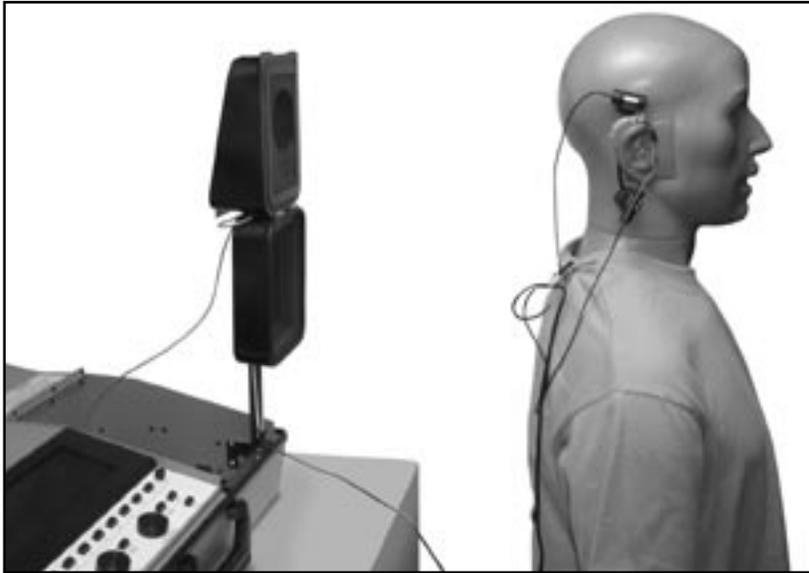

Figure 5.11.1—Reverse measurement positioning for directional test
8. Turn the patient around so the speaker is pointed towards the "null" spot of the hearing aid. For some aids, this is 180°. For other aids, it might be a different angle. Alternately, if you are using an external speaker on a swing arm, you can swing the speaker around to the back of the patient. Maintain the distance from the patient and the speaker that you used for leveling. See Figure 5.11.1.